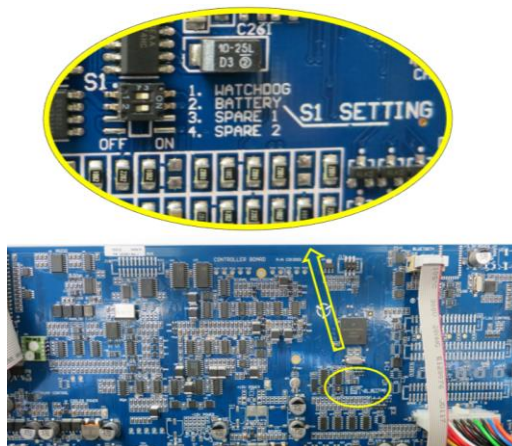

Figure 25 – Switching the Battery ON/OFF
2. Check that the battery switch is turned ON at the main controller PCA (refer to Figure 25).
3. If storing over a long period (six months) turn the battery OFF by moving the switch (S1) on the main controller PCA (refer to Figure 25).